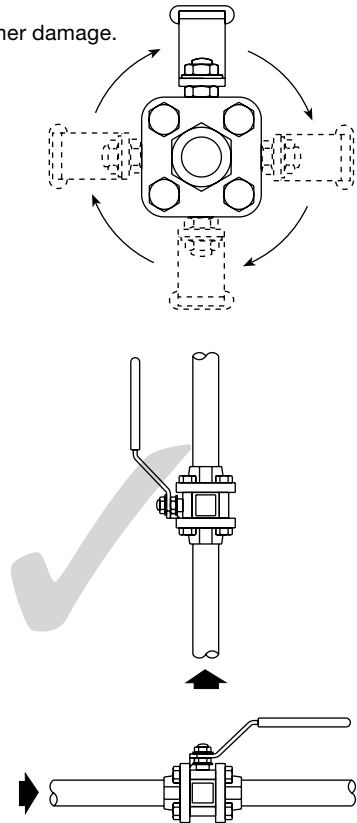

**Fig. 3 Incorrect installation for liquid service**
**Do not mount the valve upside down for liquid service (Fig. 3).**